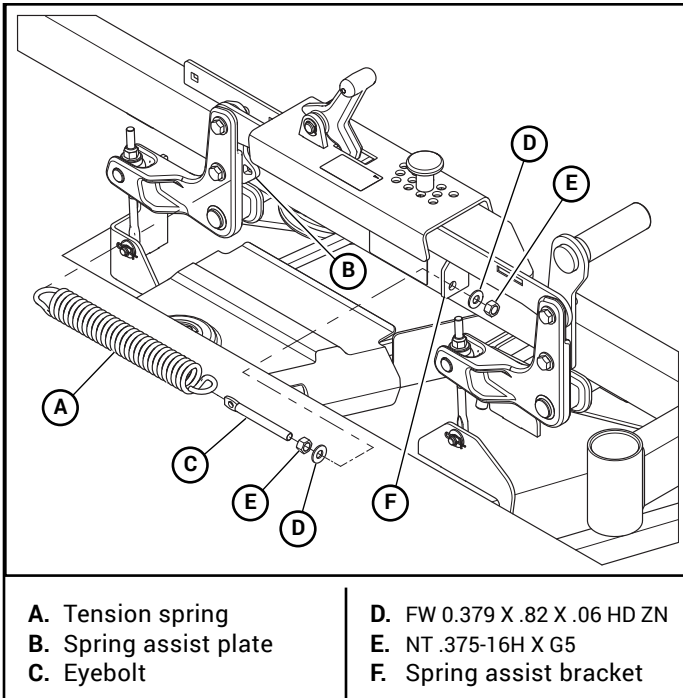
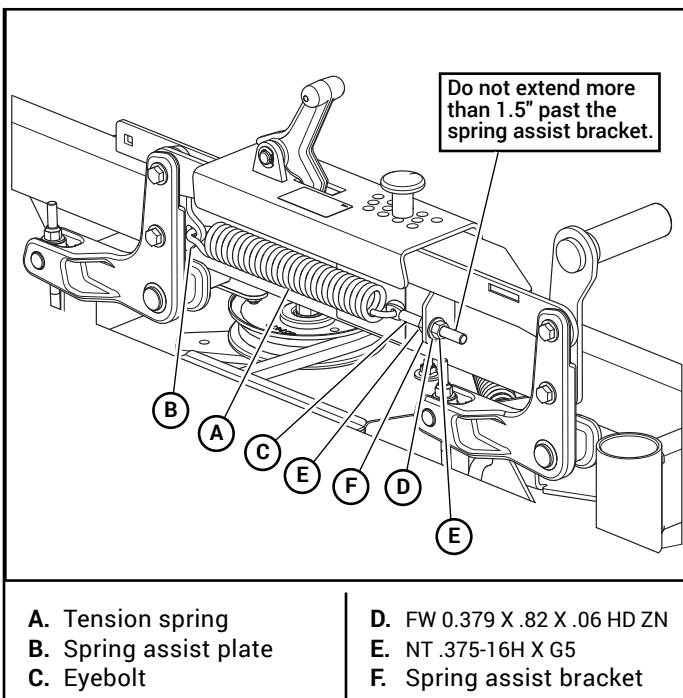

Figure 3-10
Figure 3-11
13. Attach the tension spring to the spring assist plate. Figure 3-10
14. Attach the eyebolt to the tension spring and thread the first set of hardware on the eyebolt. Figure 3-10
15. Place the eyebolt through the front spring assist bracket and install the hardware as shown. Figure 3-10 & Figure 3-11
16. The eyebolt should extend past the spring assist bracket 1.5". Figure 3-11